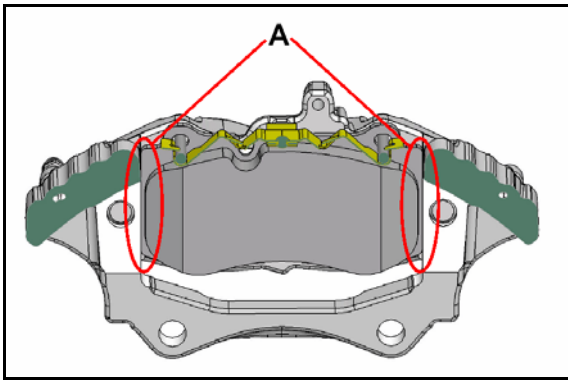

Figure 1
3. Apply brake pad paste (part no. A001 989 87 51) to both **ends** of each of the improved replacement brake pad's **backing plates** and corresponding mating surfaces within the brake caliper (Figure 1, A and Figure 2, A).